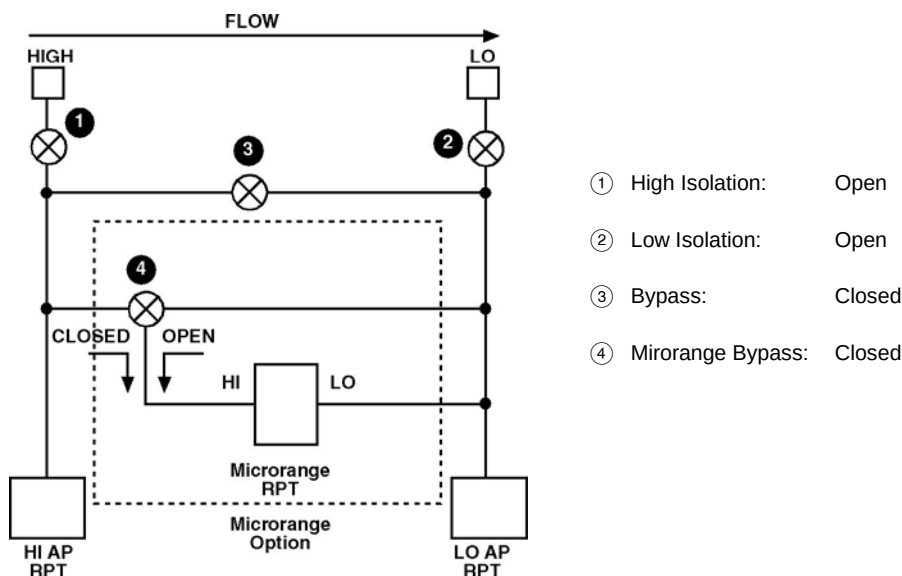

Figure 16. molbox RFM
- ❶ Set the molbox RFM on a stable surface near the calibration standard. Consider the connections that need to be made to the molbox RFM rear panel pressure quick connectors and access to the front panel display and keypad.
- ❷ Connect the calibration standard output to the molbox RFM rear panel UP (HI) port. In the run calibration mode (see Section 5.2.4.1), the microrange differential RPT high side is connected to the UP (HI) port and the low side is connected to the DOWN (LO) port (see **Figure 16**). Open the DOWN (LO) port to atmosphere by installing the accessory quick connector. If the calibration standard has a "low", "minus" or "reference" port, consider connecting it to the molbox RFM DOWN (LO) port to assure that the calibration standard and molbox RFM are at the same ambient pressure. Use a quick connector stem (Fluke P/N 3068652), equivalent to Swagelok SS-QM2-S-200) supplied in the molbox RFM accessories to make the connection. The fitting on the quick connector stem that must be mated to is a compression type for 1/8 in. tube.
Selecting <3micro> causes a warning message to appear concerning possible overpressure of the microrange RPT. To view the microrange RPT differential reading, the microrange bypass valve will be operated to connect the microrange RPT to the differential pressure (see **Figure 16**). If the differential pressure is too high, the microrange RPT may be overpressured and damaged (see Section 3.1.6). Be sure the differential pressure between the molbox RFM UP (HI) and DOWN (LO) ports does not exceed 13 kPa (2 psi), then press [ENTER] to proceed.